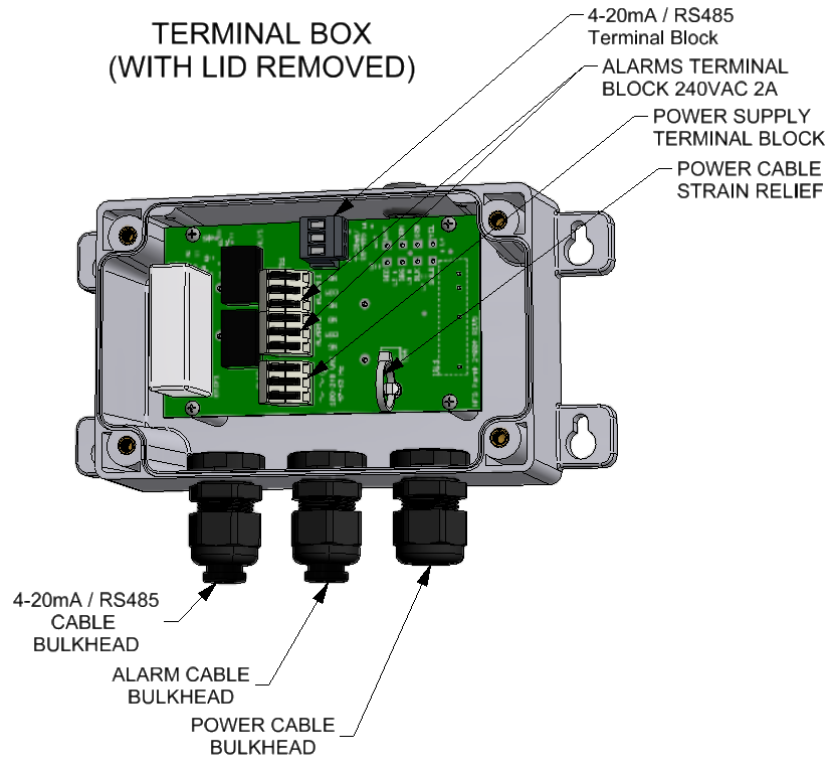

Figure 5: Electrical Connections for the Instrument
All of the electrical connections to the instrument are made through the field terminal box, which should be located directly under the sensor portion of the instrument. The connections are labeled within the terminal box and are self-descriptive (see Figure 5). Please follow all local and government recommendations and methods for installation of electrical connections to and between the instrument and other peripheral devices.
3.3.1 Power: The instrument is equipped with a 100-240 VAC, 47-63 Hz switching power supply; please verify that the line voltage falls within these specifications. It is recommended that a circuit breaker be placed prior to the power connection to allow for service. While making connections, refer to Figure 5. **The S200 TUr is not supplied with a power cord.**